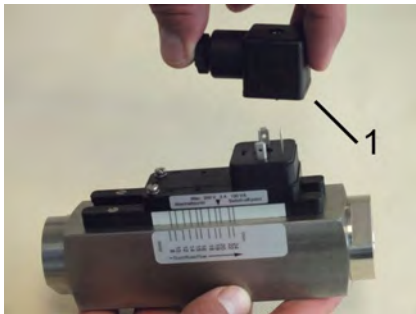

Fig. 66: Remove female socket
2. ➤ Remove the female socket and gasket (Fig. 66/1) by pulling upwards.